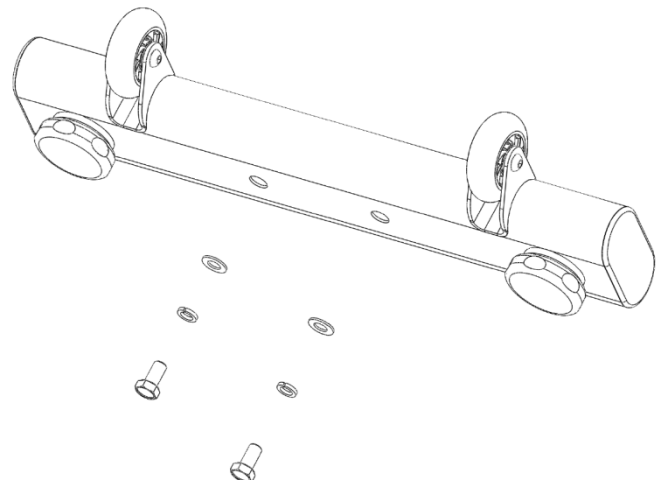

Fig. 12
12. Locate the front foot assembly along with the corresponding hardware that secures it to the Spinner frame (Fig. 12).